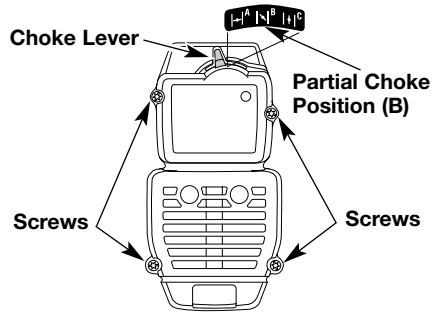

Fig. 36
NOTE: The choke lever must be in the **PARTIAL** choke position (**B**) (Fig. 36) to remove the air filter/muffler cover.
2. Remove the four (4) screws securing the air filter/muffler cover (Fig. 36). Use a flat blade or # T20 Torx bit screwdriver.
NOTE: The choke lever must be in the **PARTIAL** choke position (**B**) (Fig. 36, Pg. 23) to install the air filter/muffler cover.
2. Insert the four (4) screws into the holes in the air filter/muffler cover (Fig. 36, Pg. 23) and tighten. Use a flat blade or # T20 Torx bit screwdriver. Do not over tighten. Do not force.